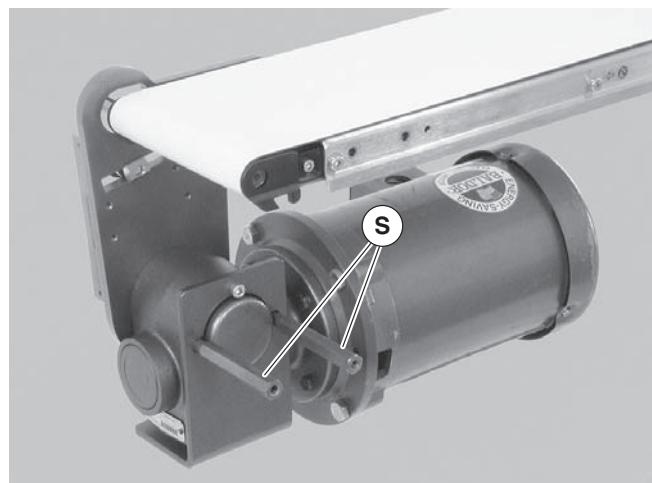

Figure 14
8. Install hex support posts (Figure 14, item S). Tighten posts to 80 in-lb (9 Nm).